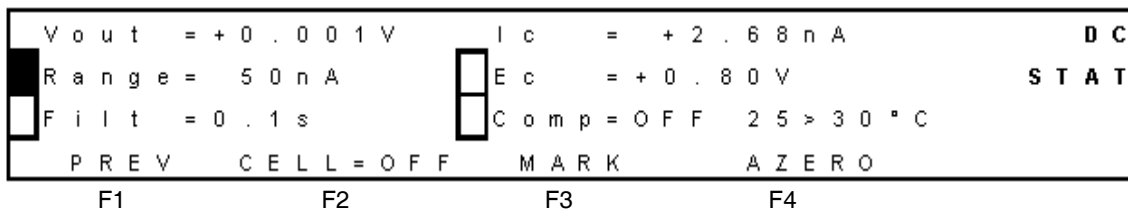

Figure 3-22 DC Stat Screen with Cell Off
2. Select **F5 NEXT**. The DC Stat screen appears (Figure 3-22) and the value for F2 CELL is OFF.
2. Select **F5 NEXT**. The DC Stat screen appears (Figure 3-22) and the value for F2 CELL is ON.